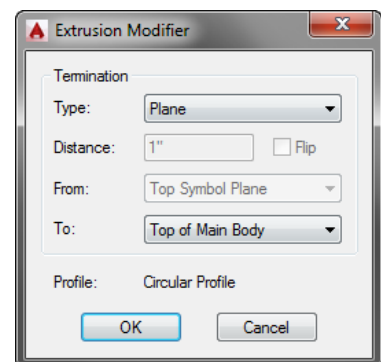

Figure 17
44. Select and then Right click on the Modifiers TreeNode and select Add Extrusion... in the Extrusion Modifier Dialog box set the Type to Plane and the To to Top of Main Body as shown in Figure 17